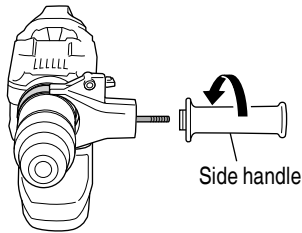

Fig. 14
- (4) Adjusting the band to a position that is suitable for the task, turn the side handle to fasten the band. Make sure that the band is securely fastened. (Fig. 14)